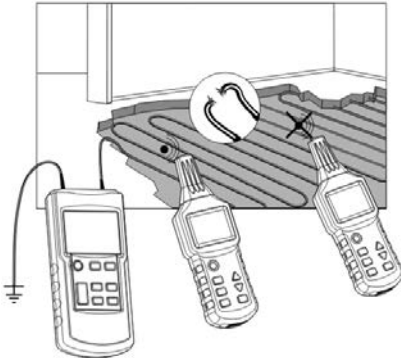

Fig.13a
- All unused lines must be earthed as shown in Fig. 13a.
For an application with only one transmitter, refer to Fig. 13a.